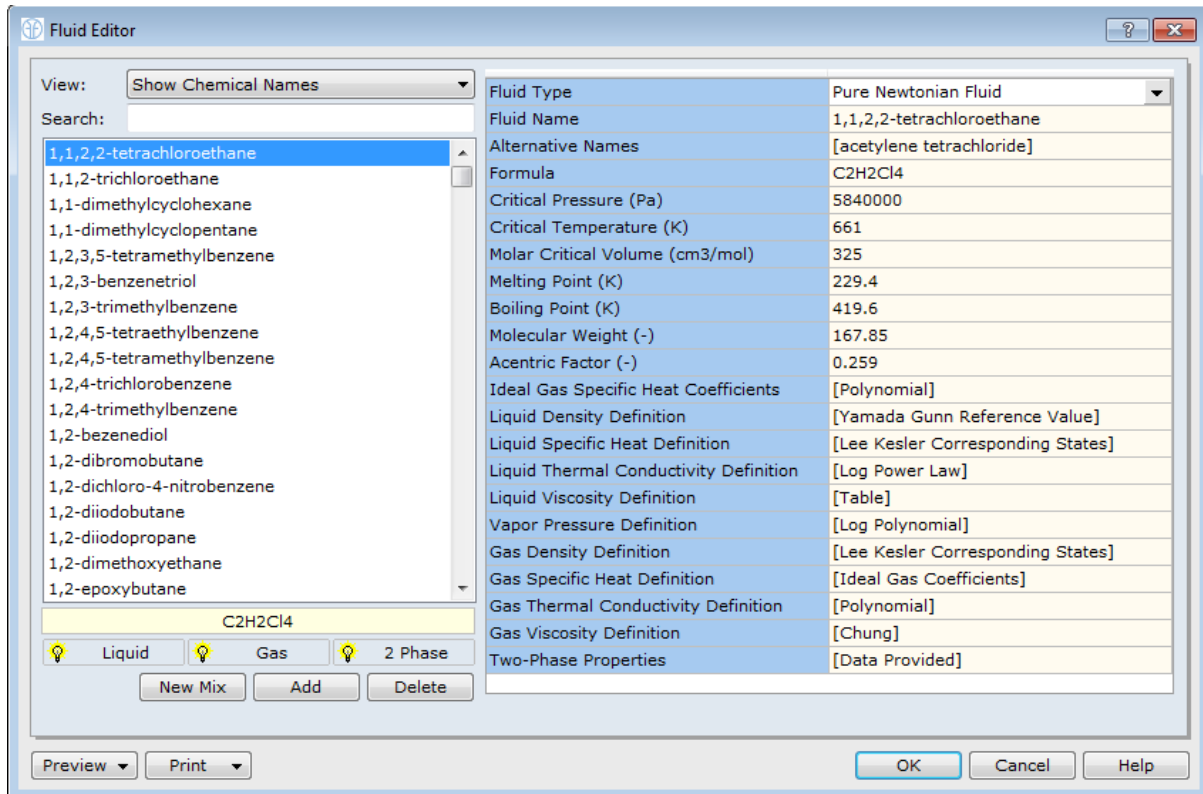

Figure 4.2.1: Fluid Editor.
Step 1: Create this new fluid mixture in the fluids database. Select; Database | Fluids. This will open a new dialogue titled *Fluid Editor* (Figure 4.2.1).